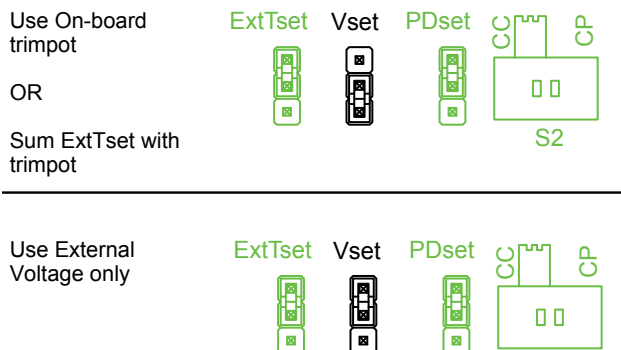

Figure 10. Laser Diode Setpoint Configuration
- Configure for local operation by installing the VSET jumper to the lower position (see **Figure 10**).
To use only the on-board ISET trimpot, place the VSET jumper in the lower position (as shown below in **Figure 10**), and do not connect an external voltage source to the R LD SET input. The ISET trimpot provides a setpoint adjustment of between zero to 2.5 V.
To use an external voltage source summed with the voltage supplied by the ISET trimpot, place the VSET jumper in the lower position (as shown in **Figure 10**). Connect the external voltage, or DAC output, to the R LD SET input (Pin 5 on Connector J2). The final setpoint voltage will be the sum of the external voltage being supplied plus any setpoint voltage created with the on-board SET trimpot.
To use only an external voltage source for the setpoint voltage, place the VSET jumper in the upper position (see **Figure 10**) and connect the external setpoint voltage via the R LD SET input. In this configuration, any voltage created by the on-board ISET trimpot will not be included in the final setpoint voltage which is applied to the laser driver.